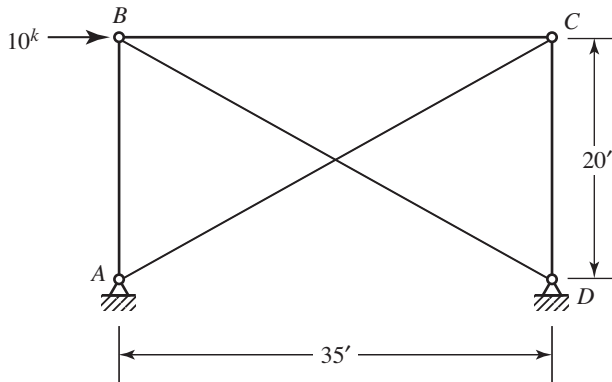

FIGURE P3.7-4
- 3.7-4** As shown in Figure P3.7-4, members AC and BD are used to brace the pin-connected structure against a horizontal wind load of 10 kips. Both of these members are assumed to be tension members and not resist any compression. For the load direction shown, member AC will resist the load in tension, and member BD will be unloaded. Select threaded rods of A36 steel for these members. Use load and resistance factor design.